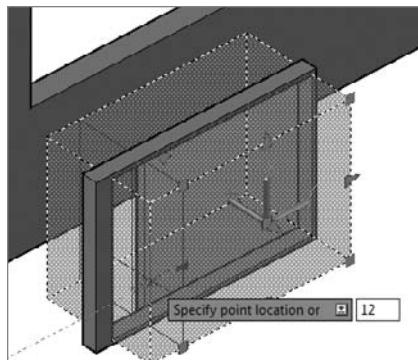

FIGURE 16.40 Adjusting the size of the box from the Subtract Boolean operation
6. Click the triangular grip on the same side that you selected for the window frame, drag the grip to make the frame larger, and enter **12 \downarrow (305 \downarrow)**, as shown in Figure 16.40. The operand is extended 12" (305 mm).